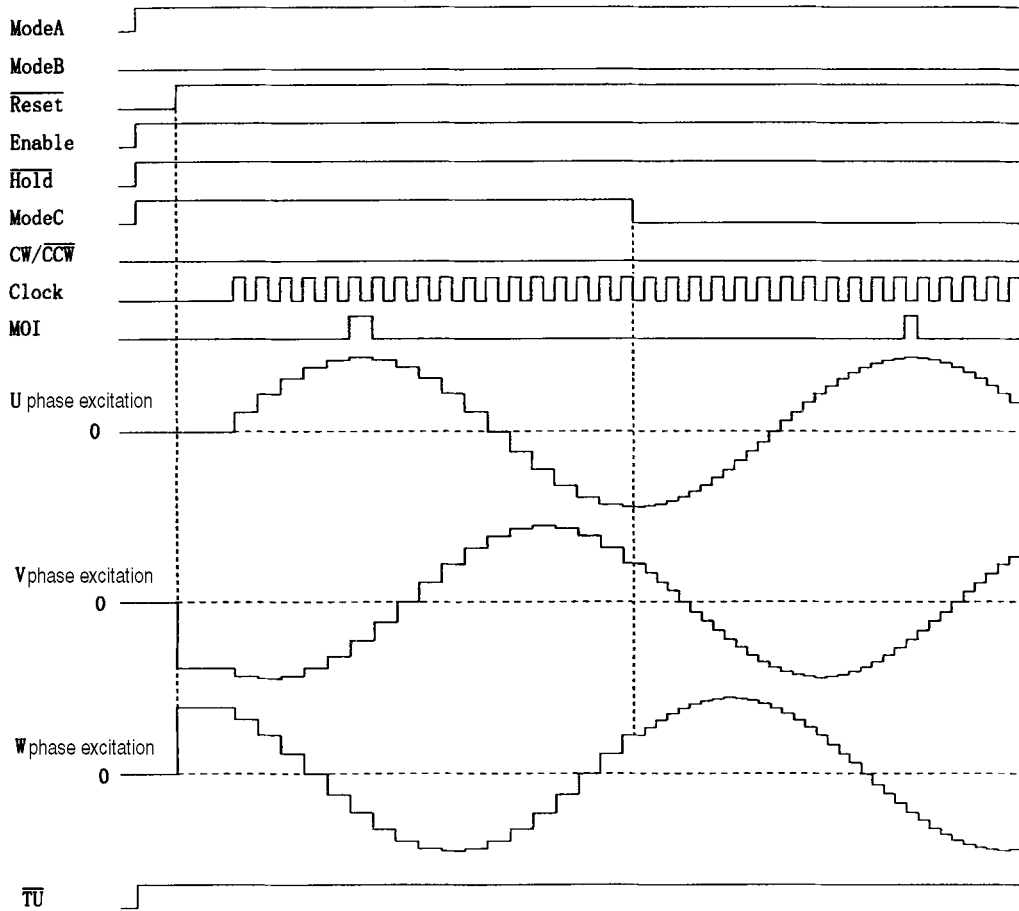

Figure 4.
- * Refer to Figure 4 for an example of $V_{\text{ref}}-I_o$ characteristics
(2) Allowable Operating Ranges of Motor Current